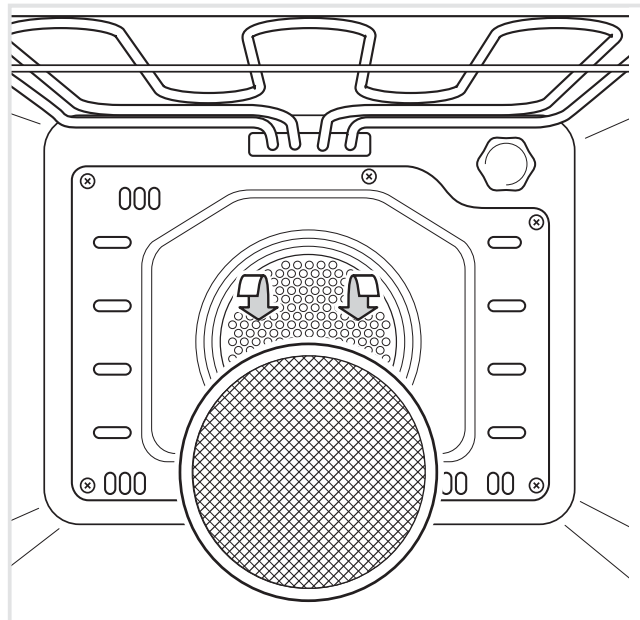

Figure 13
- Slide in the grease filter on the back of the oven as in Fig. 13.
- A special screen is provided at the back of the oven to catch grease particles, mainly when meat is being roasted (fig. 13).
The grease filter can be removed for cleaning and should be washed regularly in hot soapy water (fig. 13).